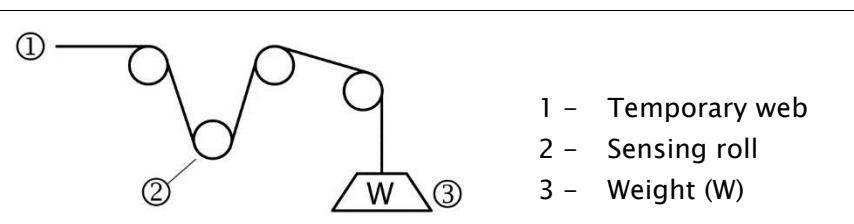

Figure 4. Apply calibration tension
5. Hang the known weight and rope over the load cell(s) in Tension Zone 1. See Figure 4 **Error! Reference source not found..**